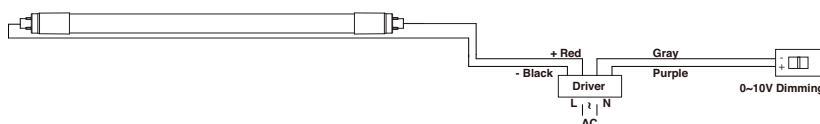

Figure 3a
**Step 7:** For single-ended wiring, please see **Figure 3a, 3b, 3c or 3d**.